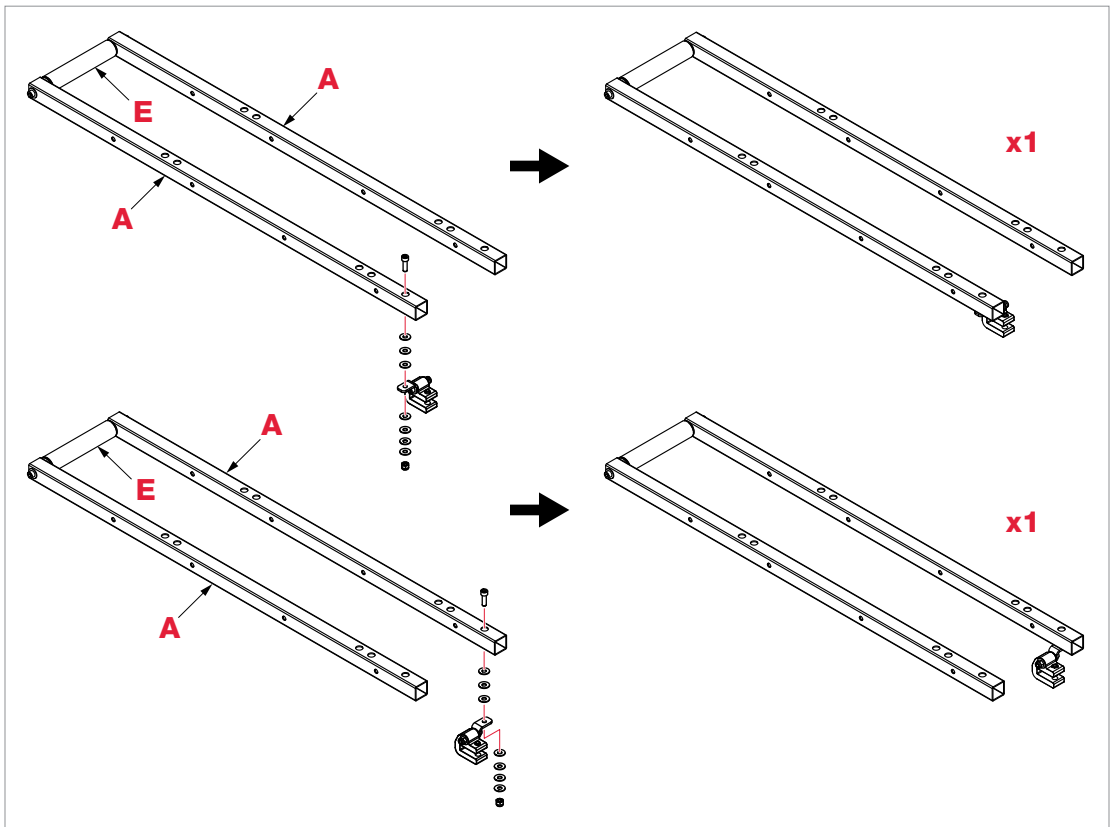

Fig. 15
- 10 Position one of the two remaining rear rail clamps between one of the sets of table tubes (**A**) attached to a small table roller (**E**), so the rear rail clamp is between the table tubes, the clamp mounting bracket extends under one of the table tubes, and the open end of the clamp extends away from the small table roller (see Fig. 15).
Repeat this process with the last rear rail clamp and set of table tubes attached to the remaining small table roller. The two assemblies with the small table rollers should be mirror images of one another. One should have the rear rail clamp on the left table tube (from the user perspective), and the other should have the rear rail clamp on the right table tube (see Fig. 15).